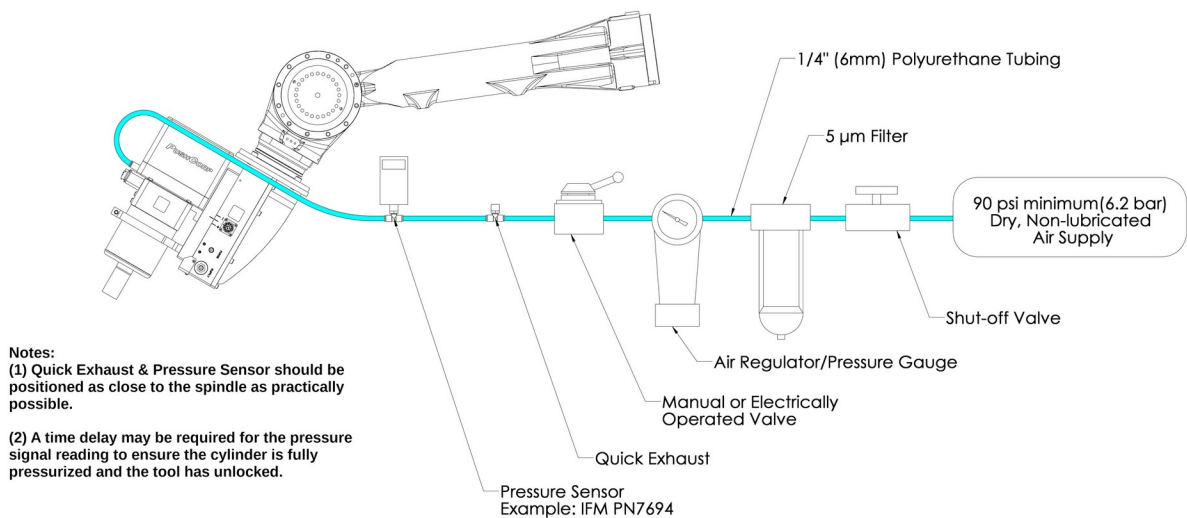

Figure 12: Pneumatic Connections
The pneumatic supply system should be configured as shown in Figure 12. A manual or electrically operated valve may be used to energize the STC for Tool Shaft/Toolholder release, but the valve must exhaust **ALL** line pressure when unenergized. An electrically operated pneumatic valve is normally used in an automated workcell. PushCorp highly recommends the installation of a Pressure Switch in the Supply Line to the STC. This switch should not allow the unit to start if there is any pressure in the Supply Line. Pressure in the line will cause internal components to come into contact. This will either cause the motor not to spin, or cause very high internal forces, eventually friction welding components together.
3. Using a pressure sensor, such as IFM PN7694, verify that you have achieved at least 90 psi, again not to exceed 100 psi (refer to Figure 12 for connection set up)